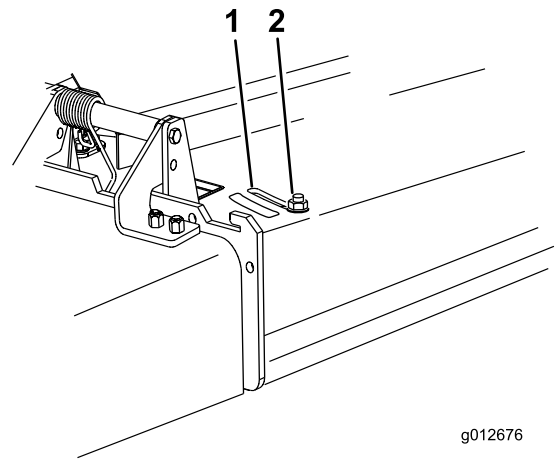

Figure 12
3. Loosen the nut (Figure 12).